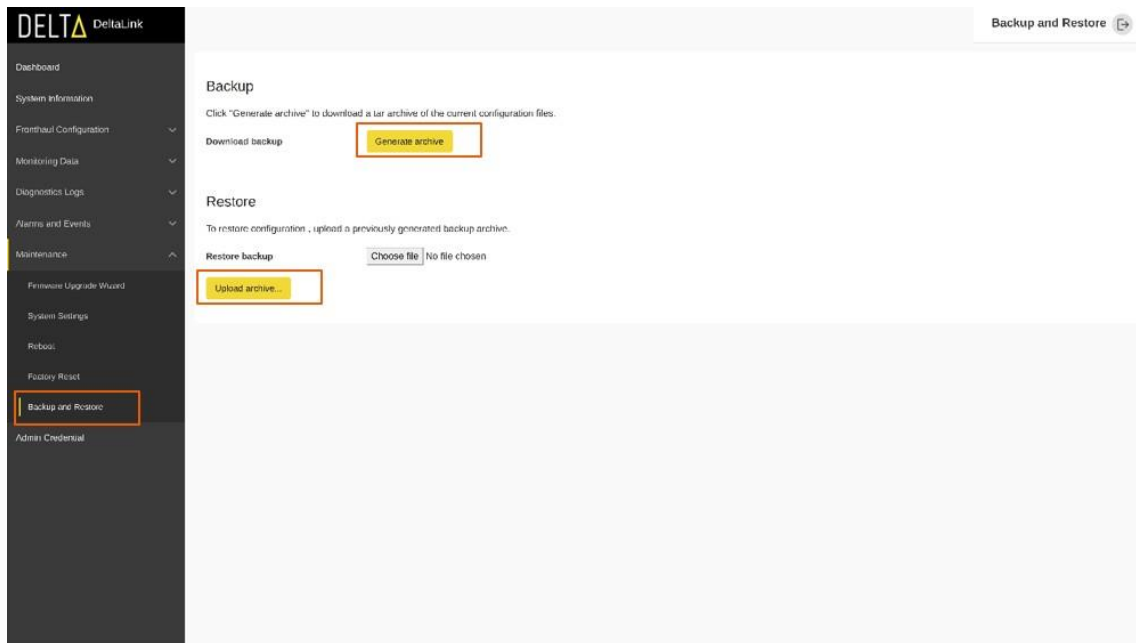

Figure 57 Backup and Restore
- a) To backup or restore configurations, navigate to "Maintenance" and select "Backup and Restore" from the expanded menu as shown in the Figure 57 below.